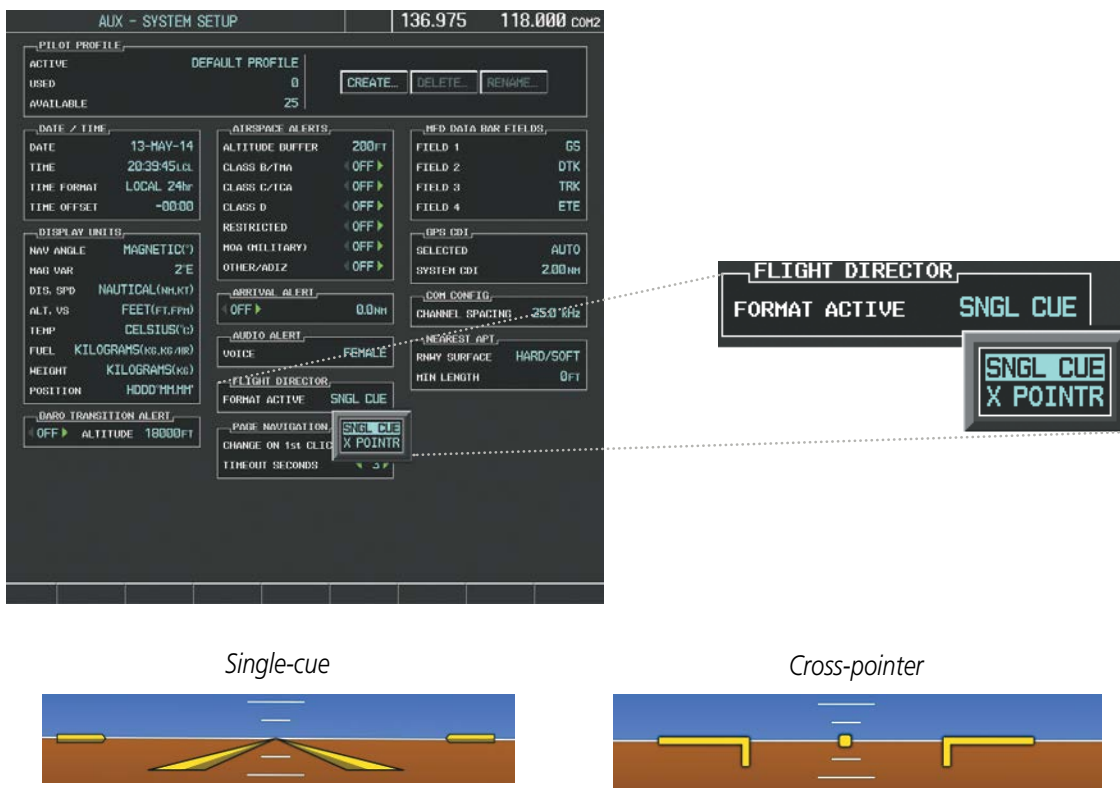

Figure 2-8 Flight Director Format (AUX - System Setup Page)
The yellow symbolic aircraft on the Attitude Indicator changes appearance based on selection of AFCS flight director Command Bar format (see the AFCS Section for details). Both PFDs show the same Command Bar format and Aircraft Symbol. The Command Bar format (single-cue or cross-pointer) may be selected from the AUX - System Setup Page Figure 2-8.
- 5) Select the **SNGL CUE** option to display Command Bars as a single cue (Figure 2-8).